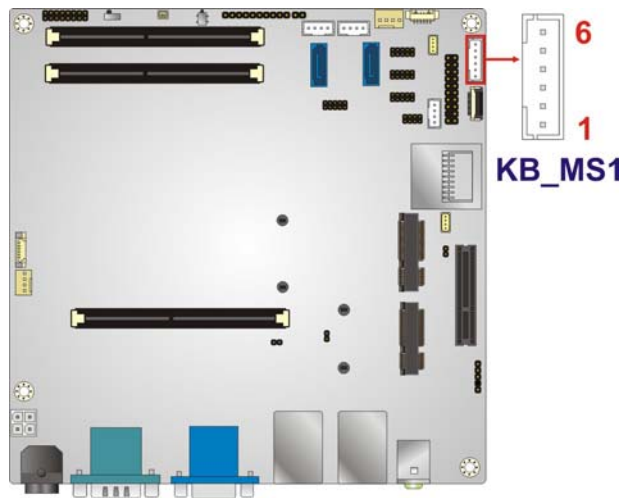

Figure 3-14: Keyboard/Mouse Connector Location
**CN Location:** See **Figure 3-14**